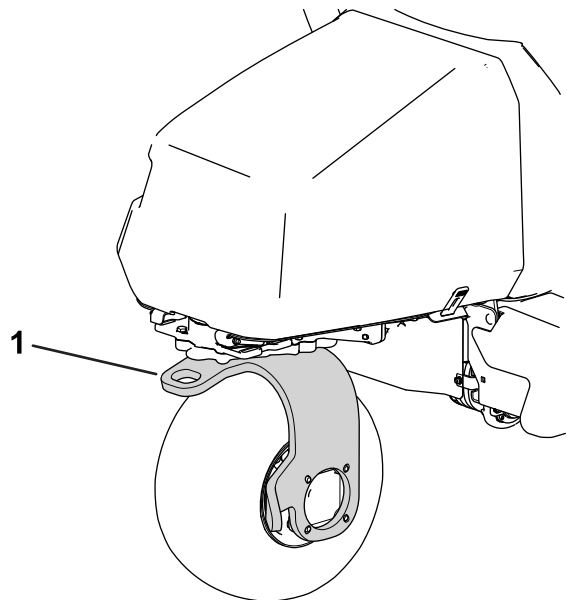

Figure 31
11. Use the rear castor fork to tow the machine (Figure 31).